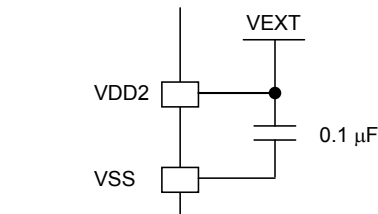

Fig. 2
- When the external supply voltage  $V_{EXT} = 1.8\text{ V}$  to  $3.6\text{ V}$ , connect  $V_{DD2}$  to  $V_{EXT}$  directly as shown in Fig. 2.